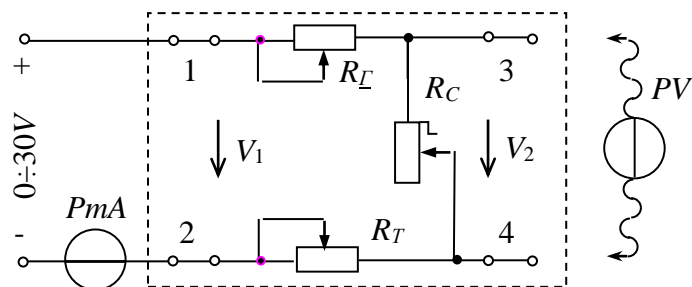

Fig. 1.10
3. Collect the circuit (fig. 1.10) and connect it to the clamps $< - >$ $< 0 \div 30 V >$. Place $LATR$ switch in position $< - >$, $< 0 \div 30V >$.
5. Set the voltage across clamps 1–2 $V_1 = V_{1oc}$ and maintaining it constant during the experiment ($V_1 = \text{const}$), change the resistance R_C turning it from 2 to 10 positions. Write down the results of measuring to the table 1.2, items 2-10.
The name and the purpose of the work. Homework – the calculation of the circuit. The schematic diagram of the investigated circuit (fig 1.10). The table 1.2. The results of calculations of source parameters. The graphs. The conclusions.